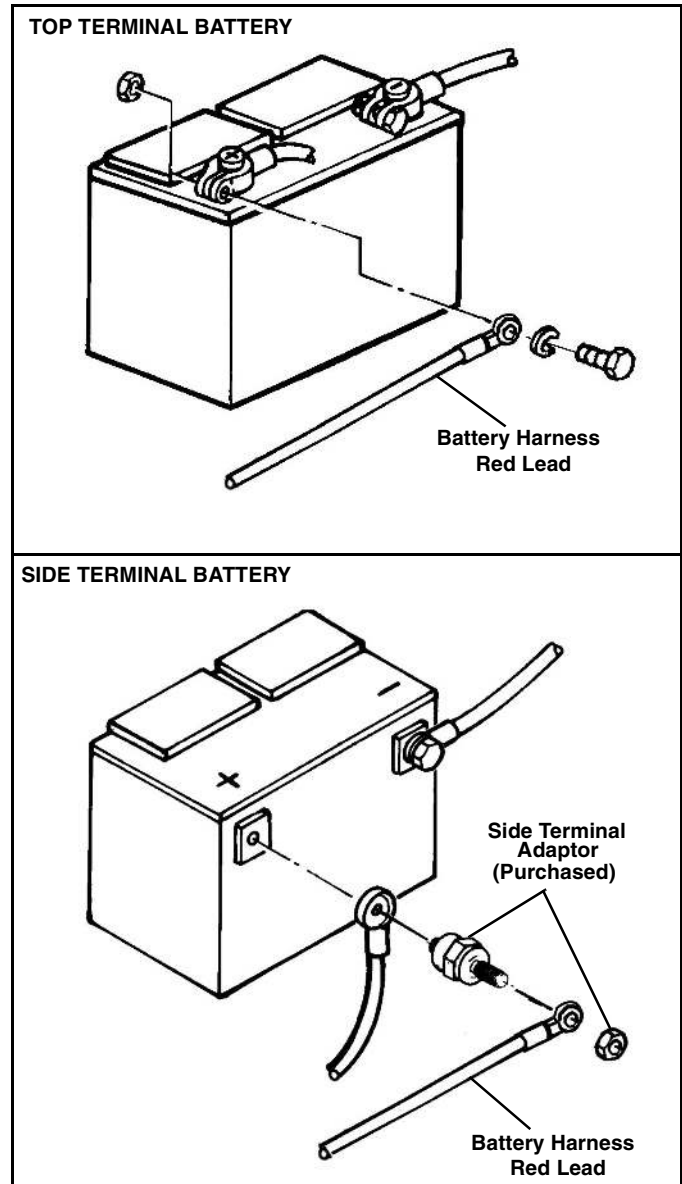

Figure 1-13
14. Attach the ring terminal of the positive (RED) wire of the battery wiring harness to the vehicle battery POSITIVE (+) post. (See Figure 1-13).